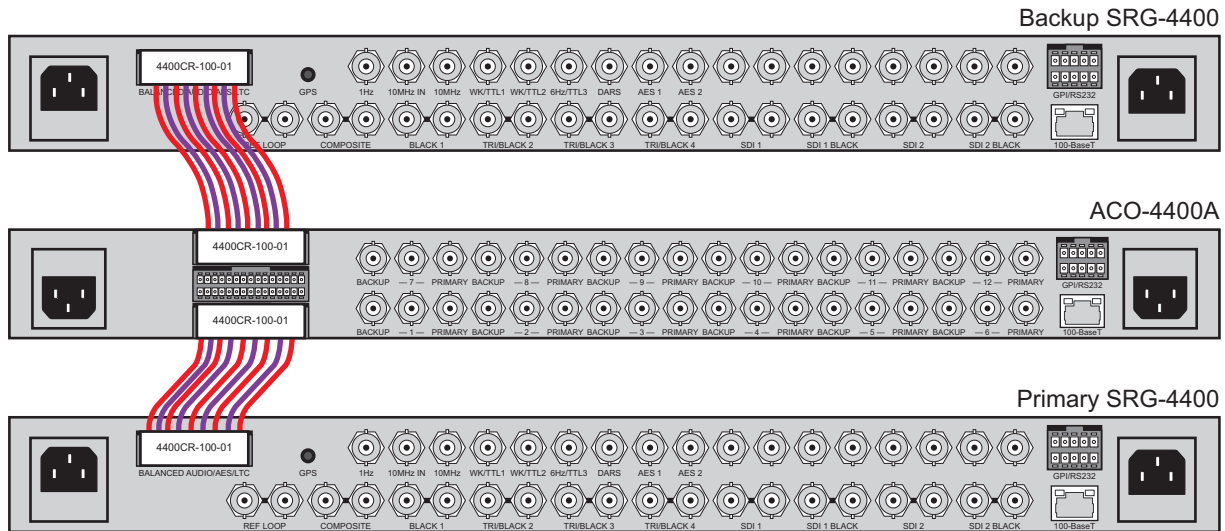

Figure 2.3 Connecting the Backup SRG-4400 to the ACO-4400A Rear Panel
2. Connect the other end of the same Interface Cable to the top 30-pin Connector on the ACO-4400A rear panel. Refer to **Figure 2.3**.